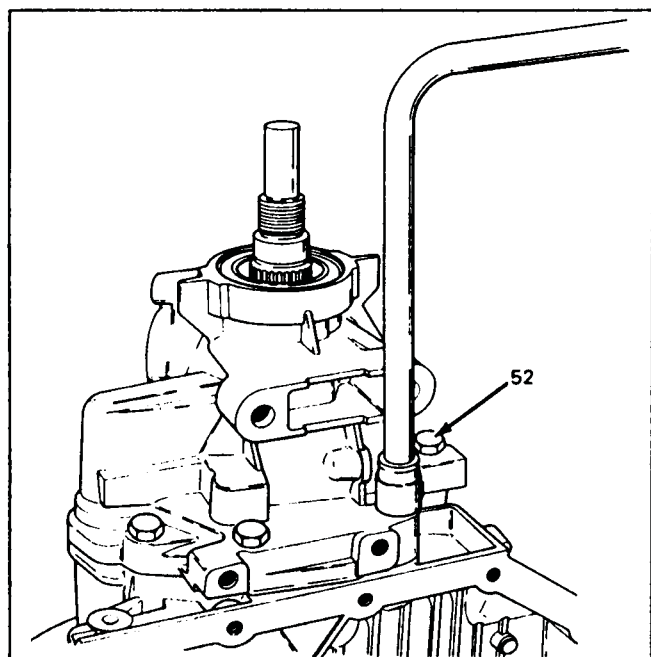

Figure 118
8. Install seven extension housing bolts and torque to 23 ft.lbs, using a 14mm socket, as shown in Figure 118.